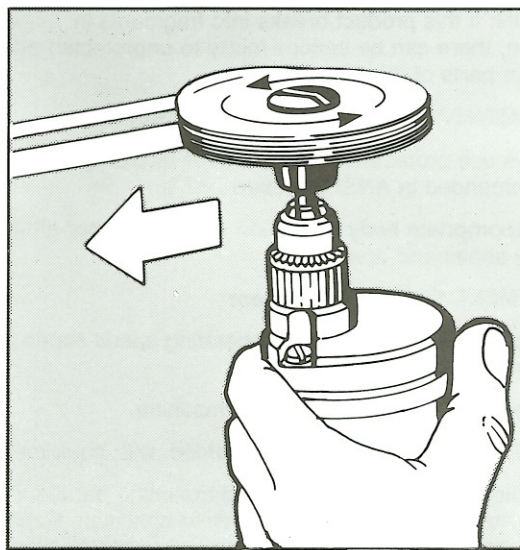

Figure 2
3. With tool running, bring outer edges of discs into contact with material to be removed. Light contact pressure is all that is needed. See Figure 2.